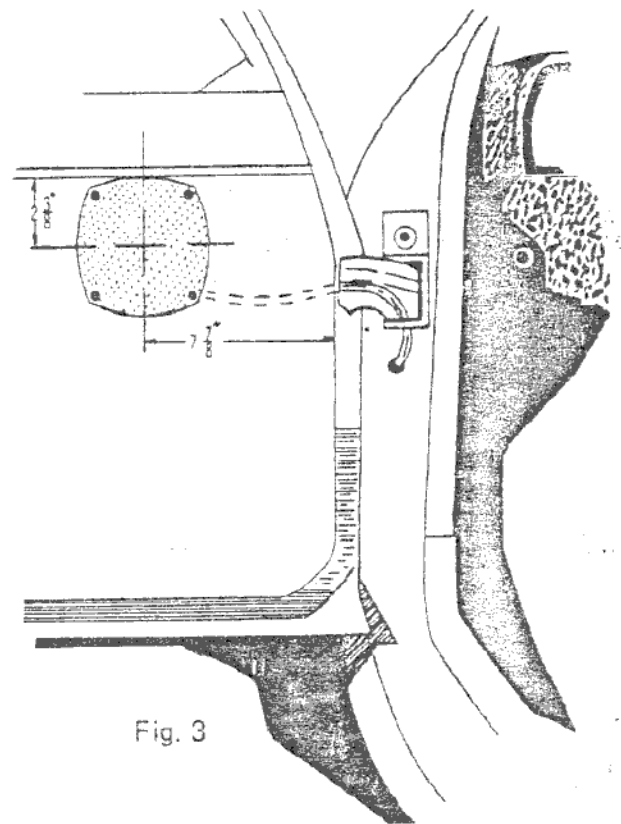

Fig. 3
- 2.3 Route speaker leads (long lead for left door, shorter lead for right door) from door to radio installation position Fig. 3.